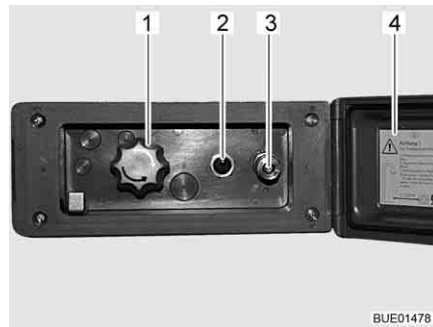

Fig. 121 External shower connection point
- Unlock and open the cover (Fig. 121,4).
- Attach hose of the external shower to the quick closure (Fig. 121,3).
- Switch on the water pump using the switch (Fig. 121,2).
- Adjust the water temperature with the rotary knob (Fig. 121,1) as desired.
- Switch off the water pump using the switch (Fig. 121,2).
- Close the cover (Fig. 121,4) and lock with key.
- Turn knob (Fig. 121,1) to the centre position.